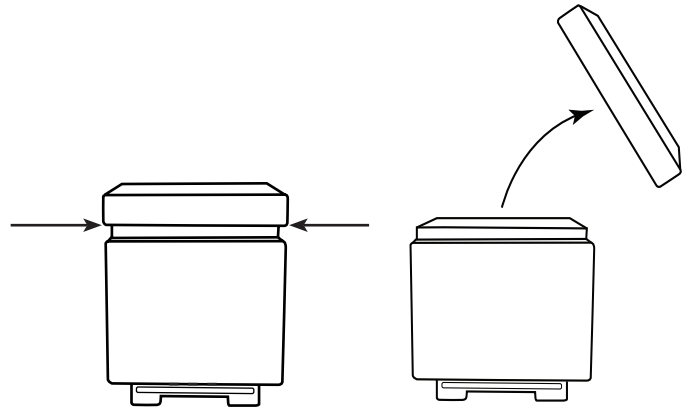

Fig. 1 Shows where to lift the enclosure lid.
Step 2: Set enclosure on a flat level surface. **Note:** The enclosure must be a minimum of 60-inches from the side of the fire pit or fire feature. See Fig. 1 and 3.
Step 3: Remove the lid by carefully lifting at the bottom edge of the lid as shown in Fig. 1. Carefully set the lid aside to prepare for installing LP tank.